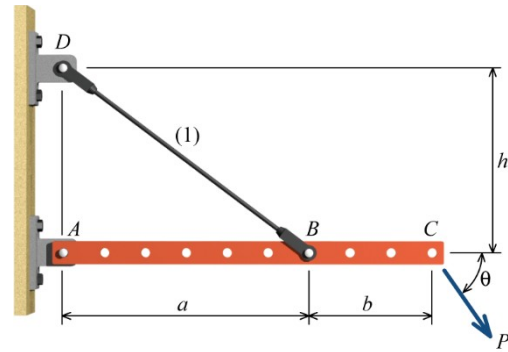

FIGURE P1.30
P1.30 Rigid bar ABC shown in Figure P1.30 is supported by a pin at bracket A and by tie rod (1). Tie rod (1) has a diameter of 5 mm, and it is supported by double-shear pin connections at B and D . The pin at bracket A is a single-shear connection. All pins are 7 mm in diameter. Assume $a = 600$ mm, $b = 300$ mm, $h = 450$ mm, $P = 900$ N, and $\theta = 55^\circ$. Determine the following:
- the normal stress in rod (1)